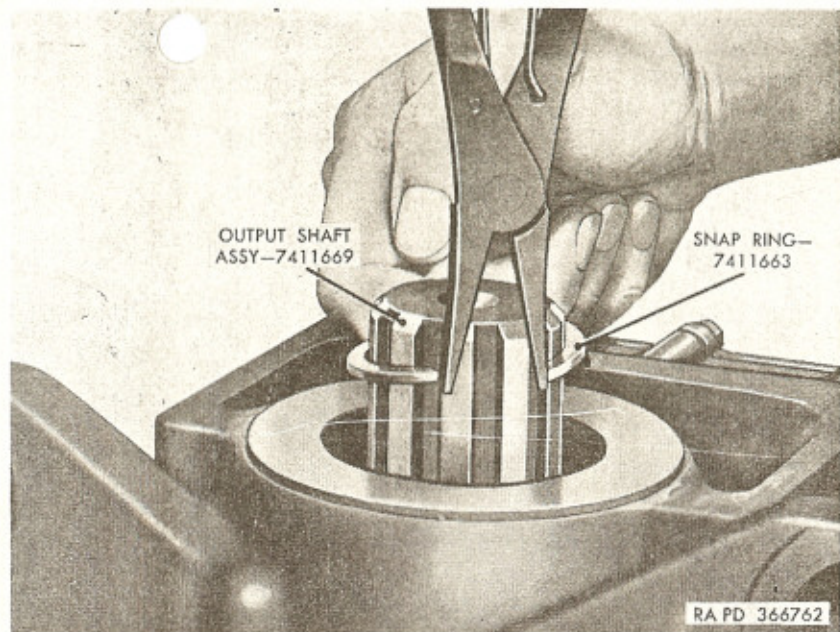

Figure 163. Removing or installing output shaft snap ring.
b. Remove snap ring (P) from output shaft assembly (A), using snap ring pliers (fig. 163). Discard snap ring.
- (5) Install new snap ring (P), using snap ring pliers as shown in figure 163.